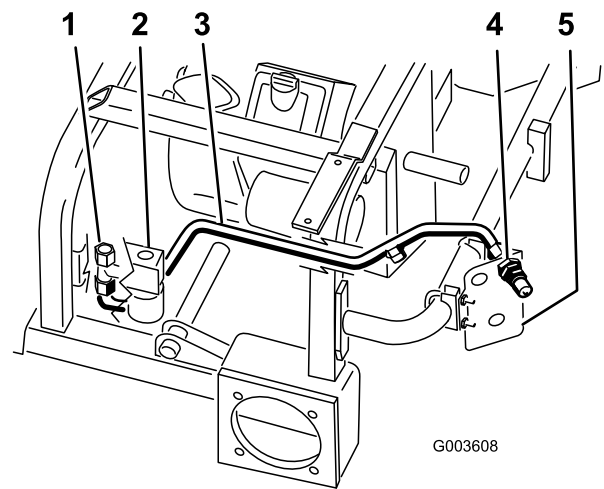

Figure 14
2. Position hydraulic line number 1 into the machine as shown in Figure 14.
3. Install hydraulic line number 1 to the tee fitting assembled to the side of the valve (Figure 14).
4. Install the hydraulic line number 1 to the upper male coupler (Figure 14).